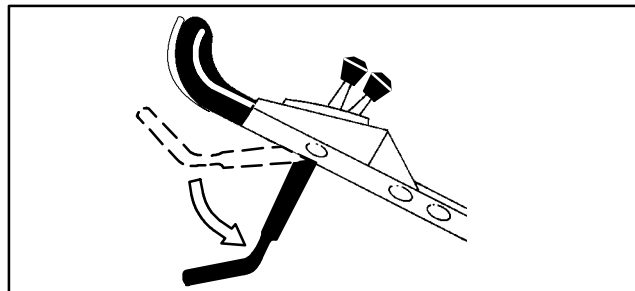

Figure 3
7. Push control bar down to lowest position (Fig. 3).